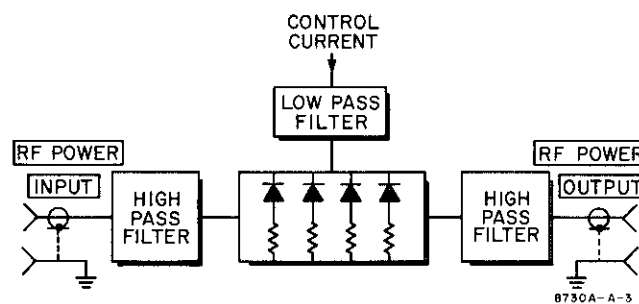

Figure 3. Simplified Block Diagram of PIN Modulator
12. The PIN Modulator is a high-speed, current-controlled absorption type attenuator. A simplified illustration of the modulator is shown in Figure 3. Each PIN unit includes a low-pass filter, two high-pass filters, a number of PIN diodes, and a 50-ohm strip transmission line (ridged waveguide in the higher frequency Model 8733, 8734, and 8735 units).
13. The PIN diode is a silicon junction diode whose P and N trace regions are separated by a layer of intrinsic (I) semiconductor (silicon). Thus the name PIN diode. At frequencies below about 100 MHz the PIN diode rectifies as a junction diode. However, at frequencies above 100 MHz, rectification ceases due to stored charge in the intrinsic (I) layer and the diode acts like a resistance by conducting current in both directions. This equivalent resistance is inversely proportional to the amount of charge in the I layer. An increase in forward bias current (current at a negative voltage) increases the stored charge and decreases the equivalent resistance of the PIN diodes. When reverse bias is applied, reverse current flows until stored charge is depleted at which time equivalent resistance becomes a maximum in the order of thousands of ohms.